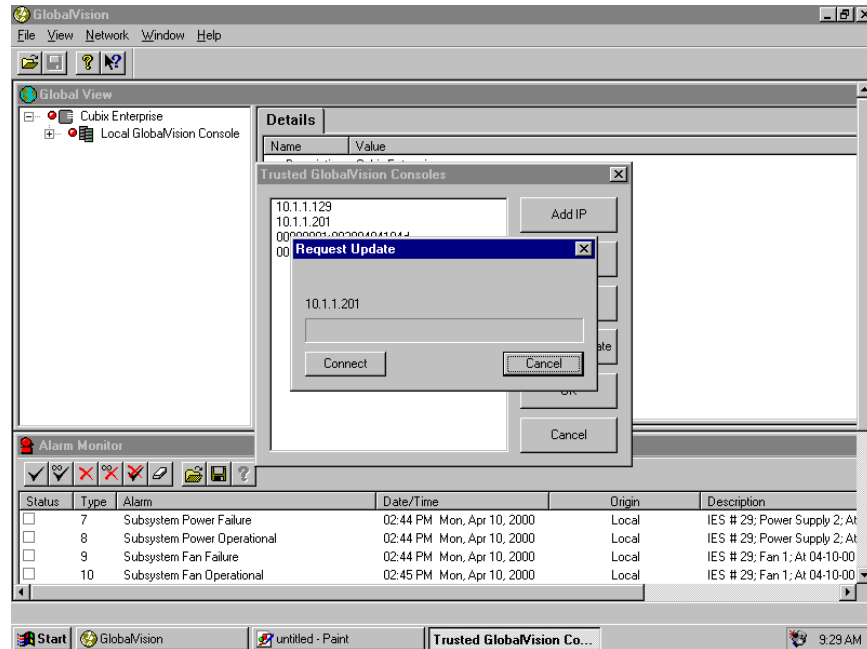

Figure 89 – Request Update screen
- If you wish to merge another console's trusted console list, you would use the Request Update button. Locate the console's address you wish to update and **highlight**. Click on the **Request Update** button. A Request Update dialog box will appear. See Figure 89. If the console address is the correct address,